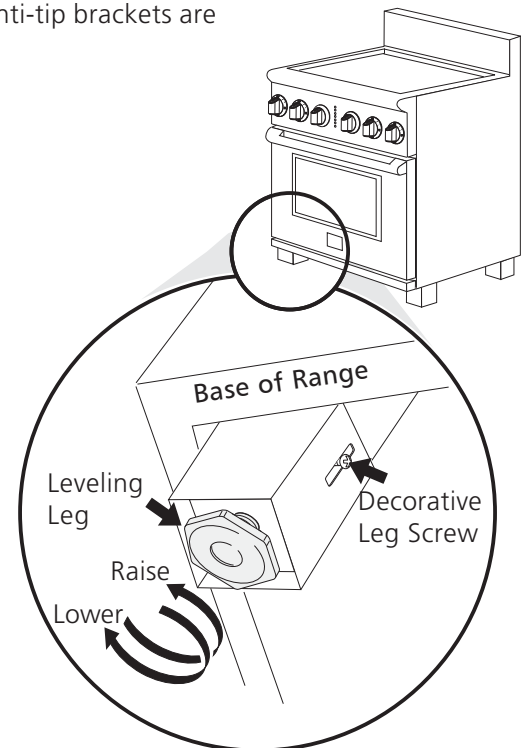

Figure 14
6. Level range if necessary, by adjusting the 4 leveling legs with an adjustable wrench. Loosen the screw which fixes the decorative leg and lift it to reach the leveling leg. Turn the leveling leg counterclockwise to raise the range or clockwise to lower the range (see Figure 14). Replace the decorative legs at your convenience.